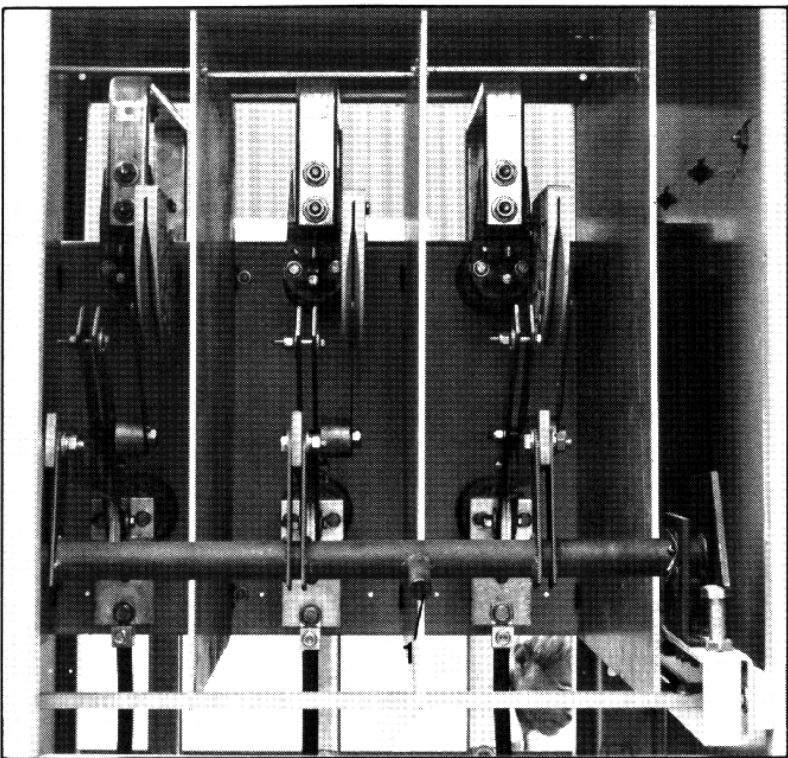

Figure 17. Slow Close
Slow closing (Figure 17) for checking load interruptor switch alignment can be accomplished in the following manner: Open the switch using the operator mechanism and open the main door panel. Insert pipe over protruding rod (1) on rotating shaft assembly and rotate the shaft assembly using the pipe as a lever. Main blades and arcing tips will not stay closed. Adjust arc chutes and main contacts per instructions below.